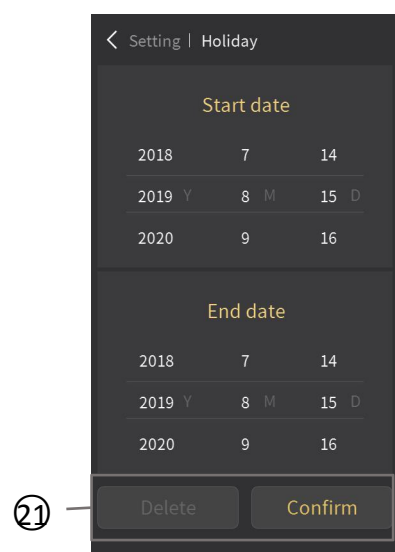
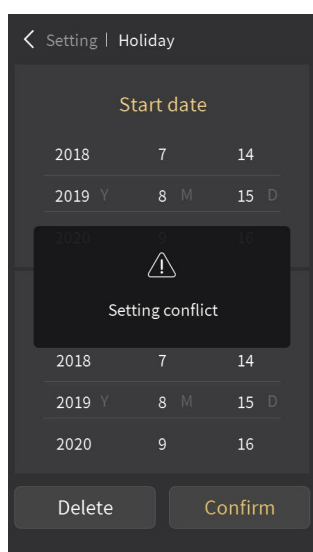
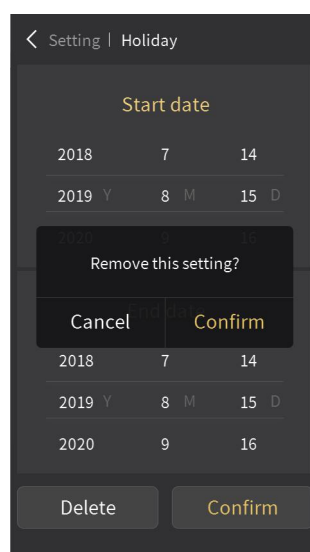

Fig.2.11.12
Fig.2.11.13
Fig.2.11.14
⑬ Enter the holiday time setting by touching the icon ;
Touch icon⑬, enter the interface as shown in Fig.2.11.12, set the period of holiday, here set up after the start time and end time of the holiday, click “Confirm” to finish the setting. If the holiday time is repeated when setting, then will pop up a window as shown in Fig.2.11.13; touch the area outside the window to return to the setting page.
⑭ Drop down the list of holiday time by touching the icon;**⑮ This icon is to confirm and delete setting.**
If it is to be modified or deleted the setting time, touch this time period to the right of the icon ⑮, then re-enter Fig.2.11.12 interface, in this period of time to modify or delete, click “Delete” as shown in Fig.2.11.14 pop-up window. In the pop-up window, click “Cancel” to return to the setting page, and click “Confirm” to delete it. If no modification or deletion is needed, the icon in the upper left corner of the touch interface returns to the holiday interface.